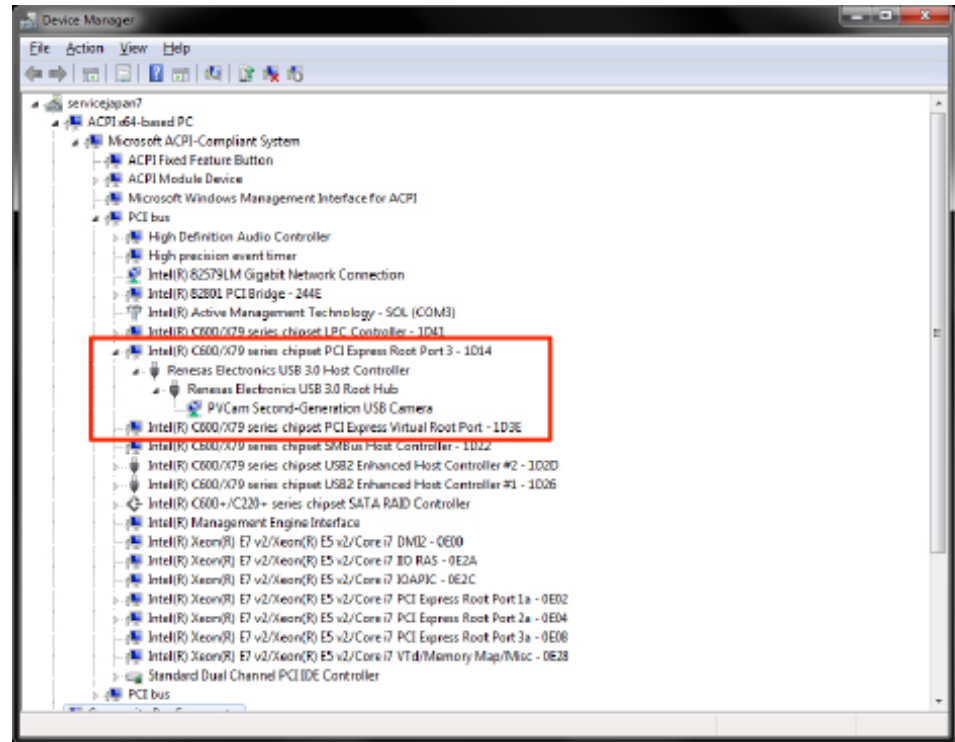

Figure 2. Photometrics USB3 camera is the only device on its USB Root Hub.
settings and image data to the host PC.) The CoolSNAP DYNO camera should be connected to a USB 3.0 port. It should also be the only device on its USB root hub controller (see Figure 2 below). Please see the following section on how to select the appropriate USB port for optimum camera performance. This ensures the maximum bus bandwidth is available to the camera for data transfers. USB 3.0 ports are often (but not always) identifiable by a blue internal socket or the “SuperSpeed” (or just “SS”) USB logo.
3. According to Figure 2, find the USB host controllers, expand them, and check whether your camera is the only device connected to the Root Hub.